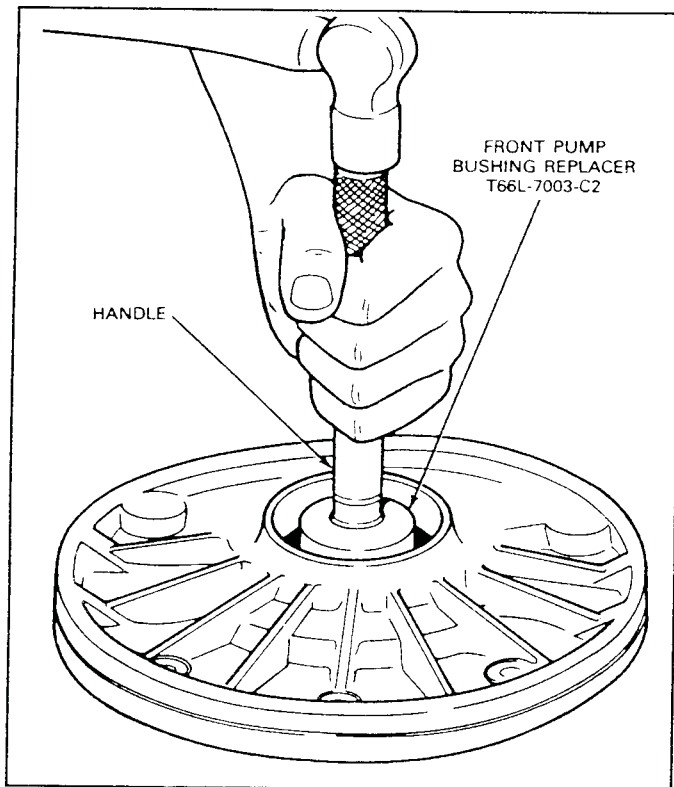

FIG. 37 Replacing Front Pump Housing Bushing
5. If the pump housing bushing is worn or damaged, replace it using the handle and Tool T66L-7003-C2 or equivalent shown in Fig. 37.